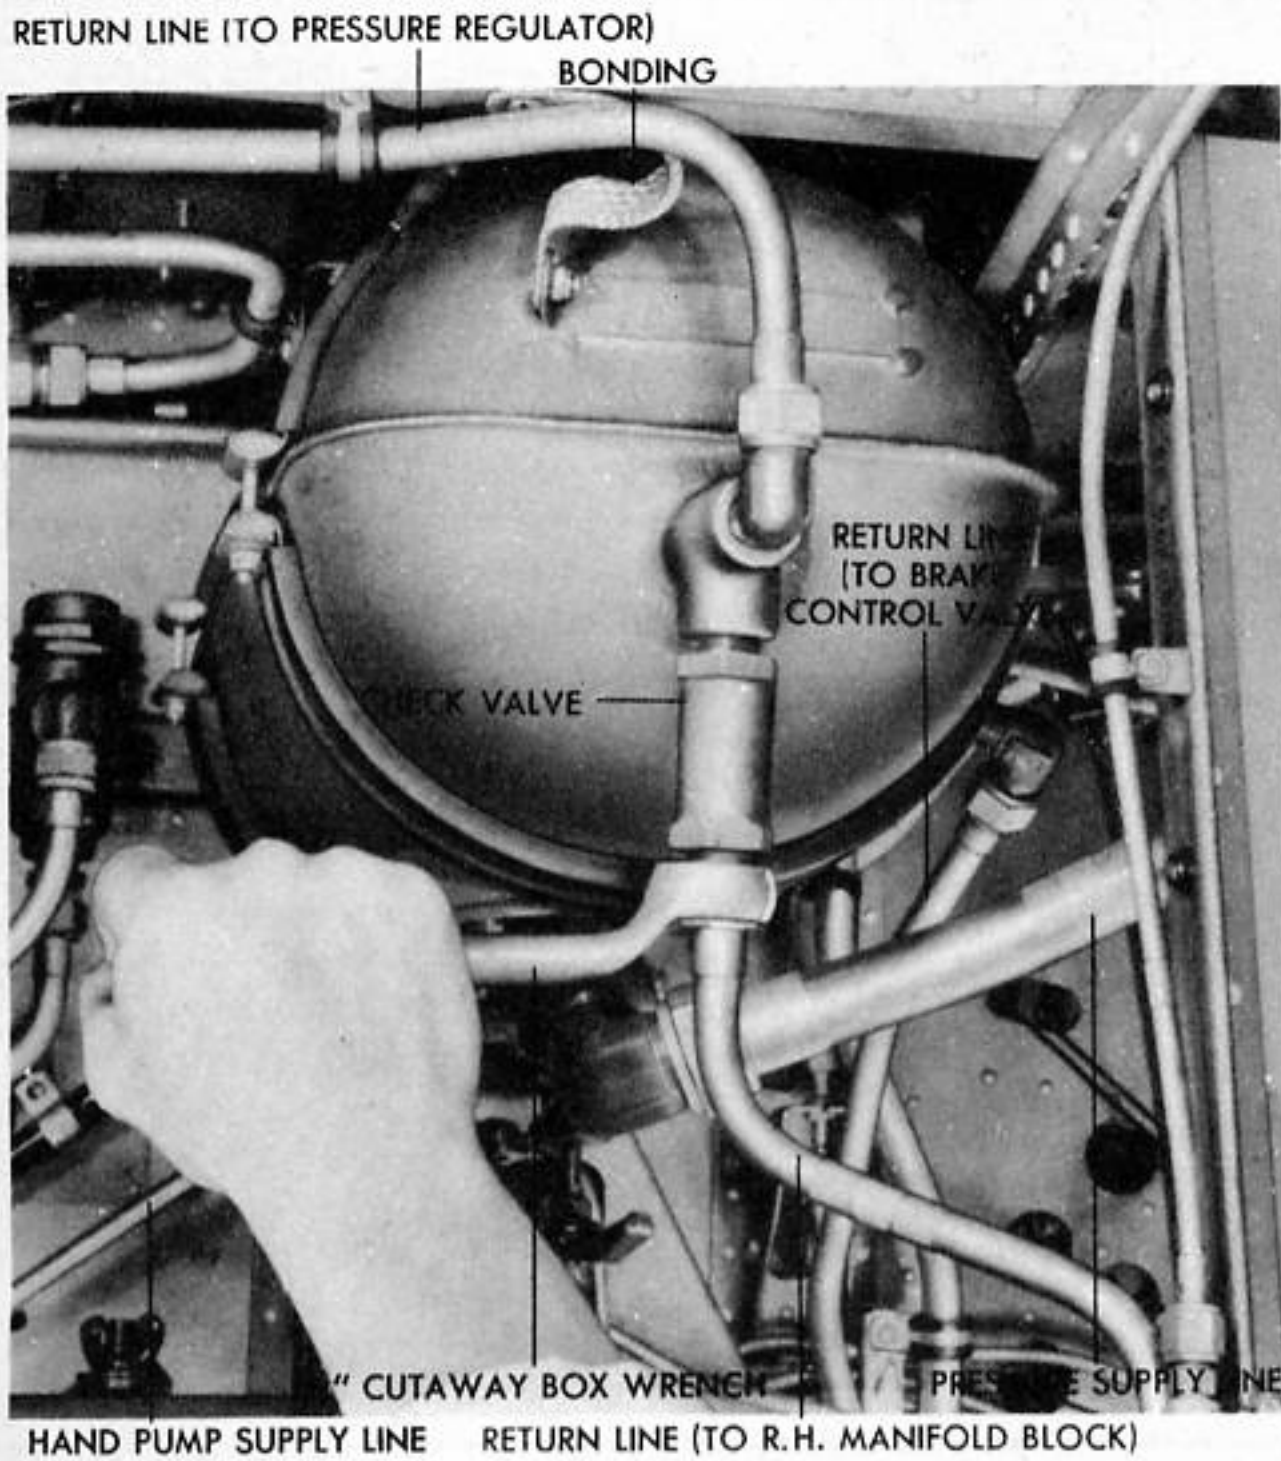

Figure 202 - REMOVING HYDRAULIC FLUID RESERVOIR
(1) REMOVAL OF FLUID RESERVOIR. (See figure 202.)